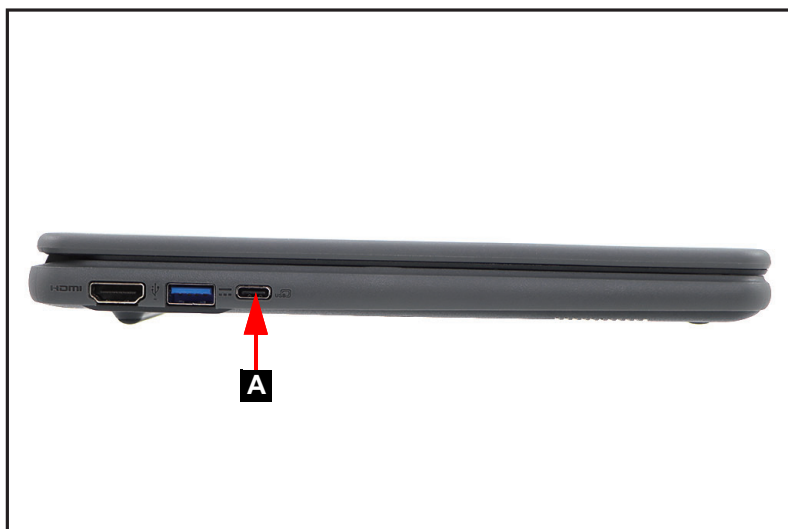
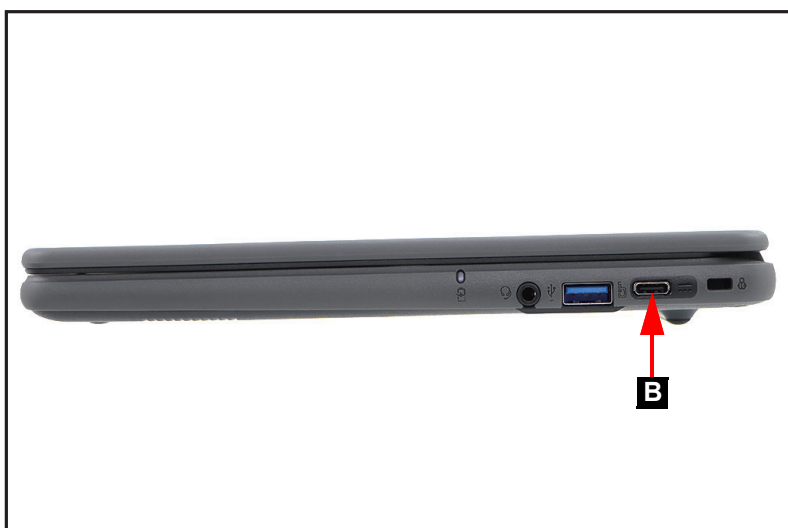

Figure 3-1. Adapter Outlet (1 of 2)
Figure 3-2. Adapter Outlet (2 of 2)
2. Remove the power adapter from the USB Type-C port (A) as shown in Figure 3-1 or from the USB-C port (B) as shown in Figure 3-2.